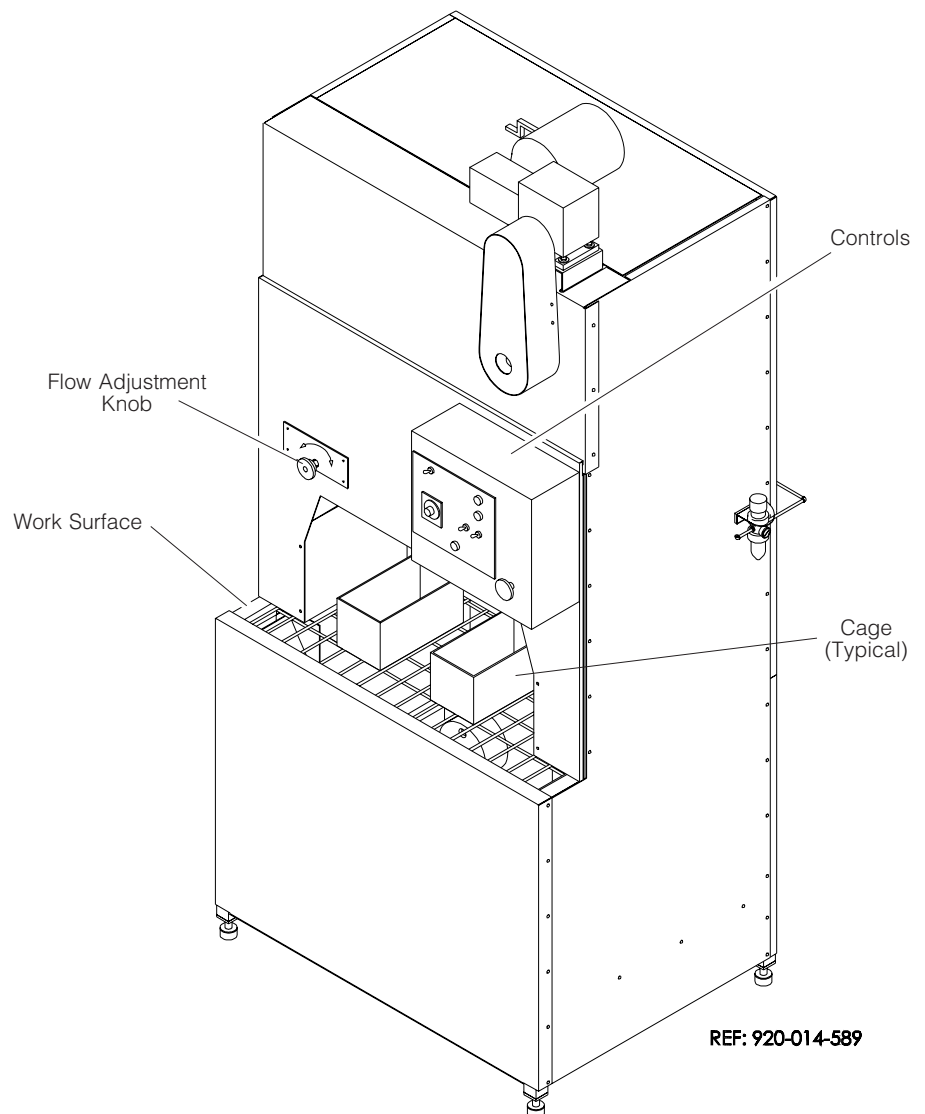

Figure 5-1. Basil® 9600 Bedding Dispenser
1. Fill lower (storage) hopper by dumping bedding through the work surface grid from the front of the unit (see Figure 5-1).